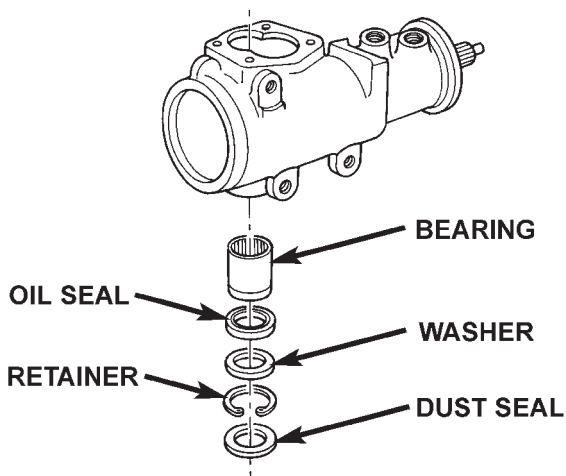

Fig. 7 Pitman Shaft Seals & Bearing
- (6) Remove pitman shaft from the side cover.
(7) Remove dust seal from the housing with a seal pick (Fig. 7).